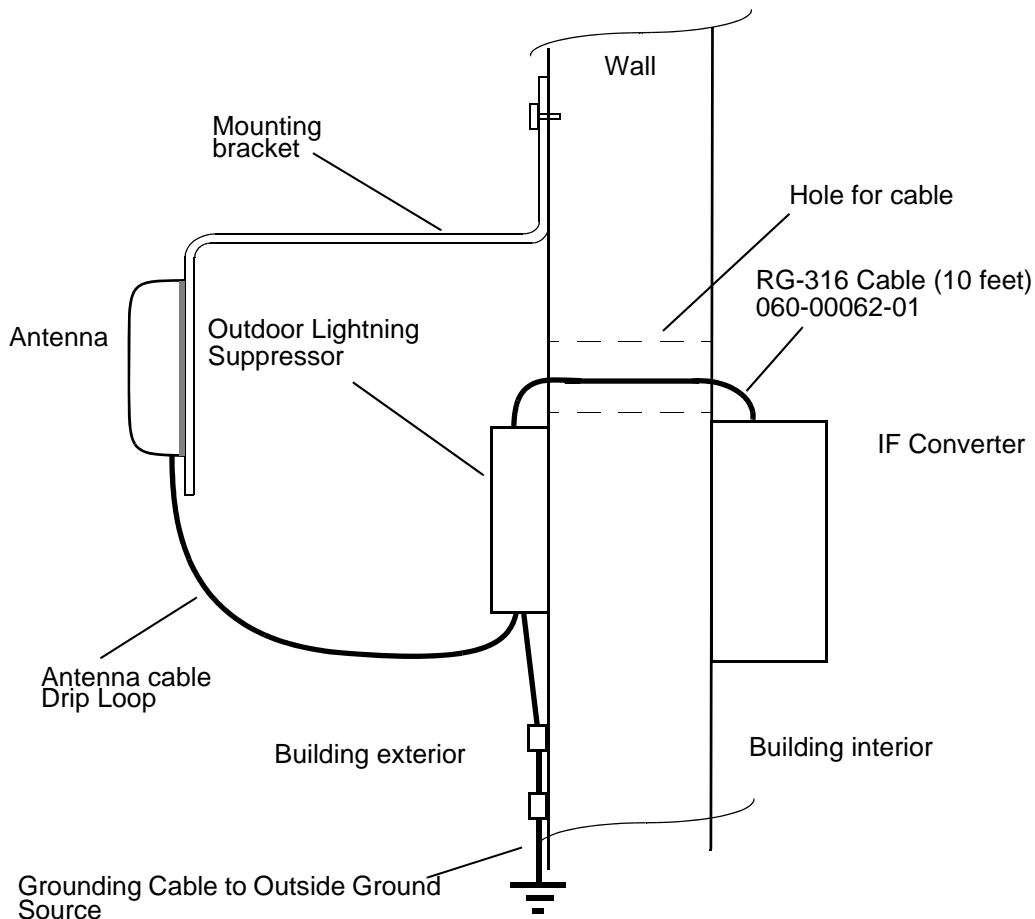

Figure 3-11. Wall Antenna Outdoor Lightning Suppressor Mounting
24.	Mount the outdoor lightning suppressor mounting bracket to the outside wall shown in Figure 3-11 .